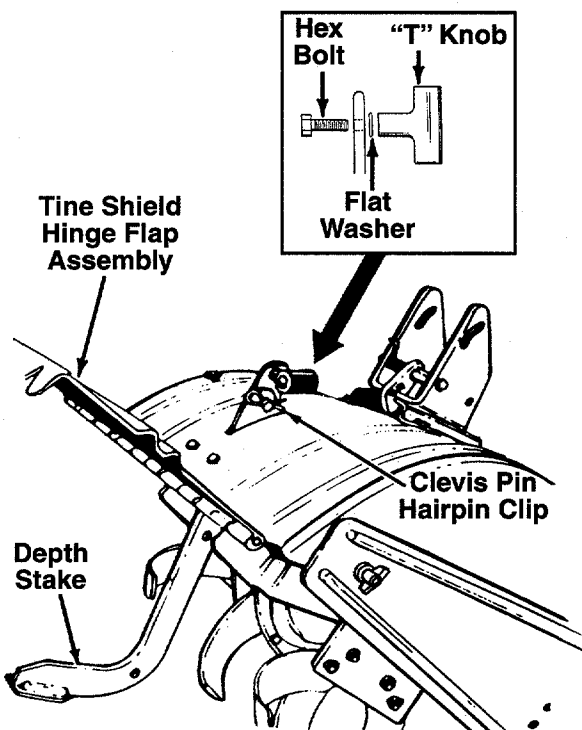

FIGURE 1.
2. Raise the tine shield hinge flap assembly. Insert the depth stake assembly between the two shoulder bolts (under the tine shield) and up through the tine shield assembly as shown in figure 1.
4. Insert hex bolt into the top hole of the depth stake assembly. Place flat washer onto the hex bolt and thread "T" knob onto the hex bolt. See figure 1 inset. Tighten securely.